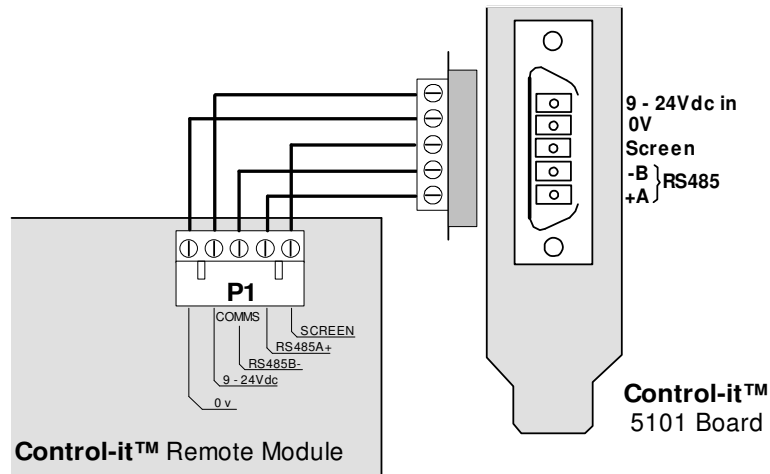

Figure 5 - RS485 connection to the 5101 PCI board.
2. Connect the module to the RS485 interface board as per figure 5. (For more, refer to page 22.)